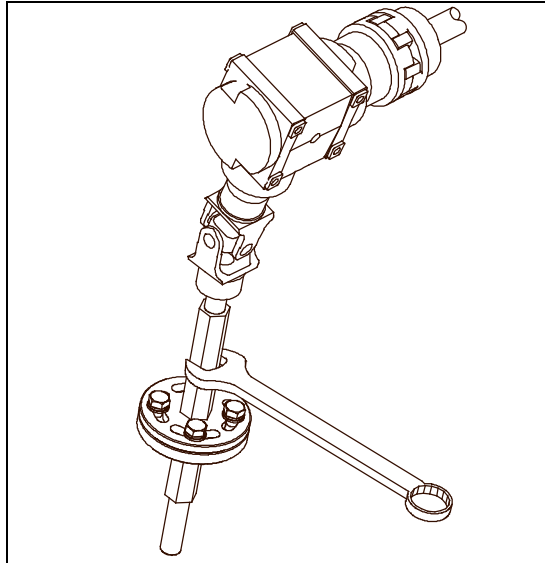

FIGURE 3
8. Operate the slide-out and check if the exterior panels of the slide-out are parallel with the vehicle panels. If not, rotate the upper part of the adjustable shaft assembly as required to obtain proper alignment (refer to figure 3).